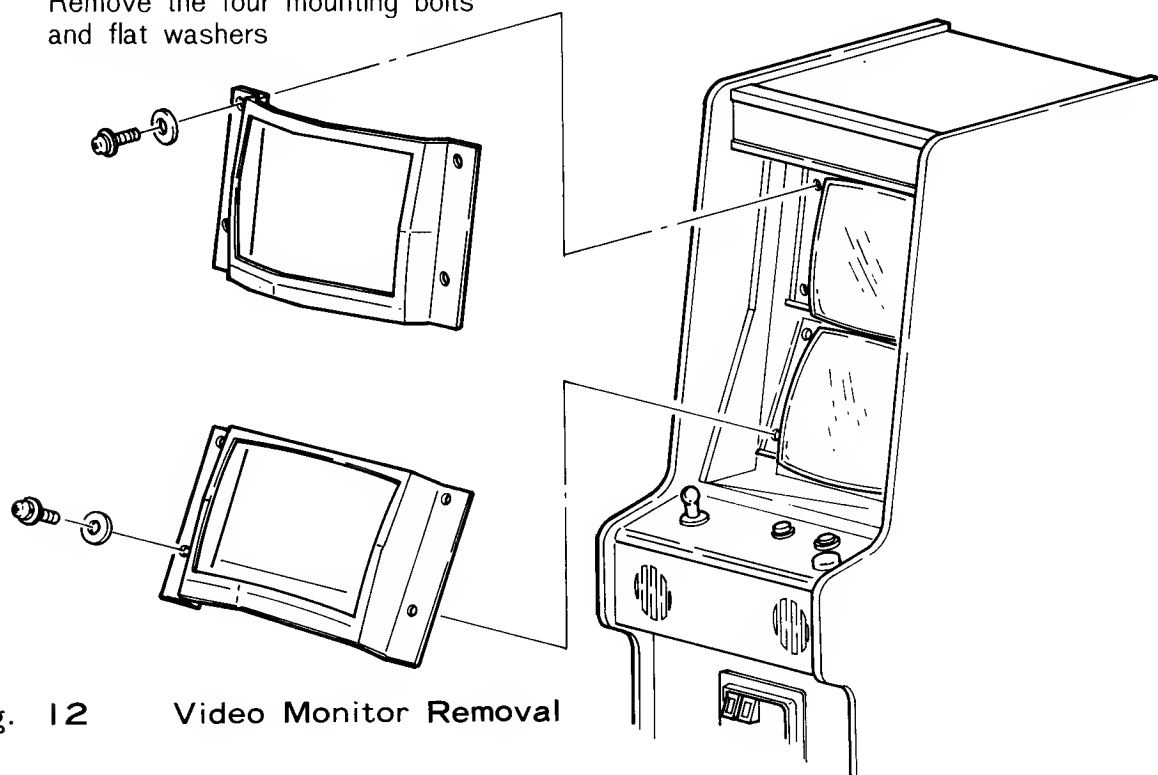

Fig. 12 Video Monitor Removal
- (d) Standing at the front opening of the game, remove the four mounting bolts and flat washers. See Fig. 12.